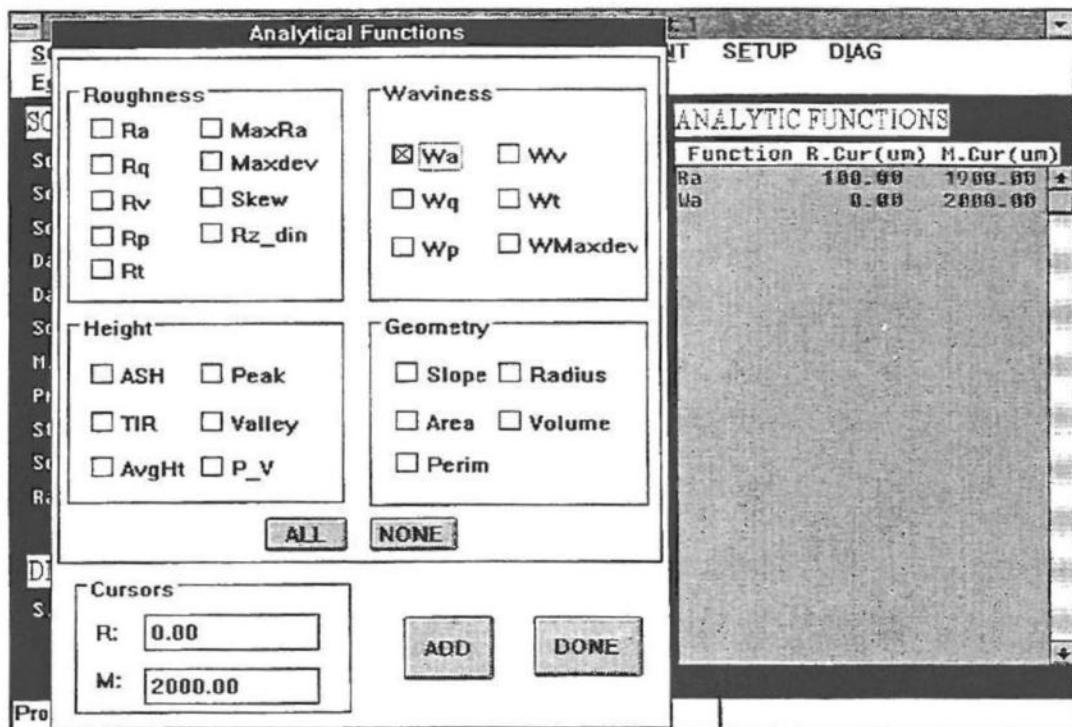

Figure 6 - 7 Analytical Functions/Scan Routine Screen Entry
5. Click on OK. The WA function will be entered into the area on the right of the Scan Routines screen labeled Analytic Functions (see Figure 6 - 7).